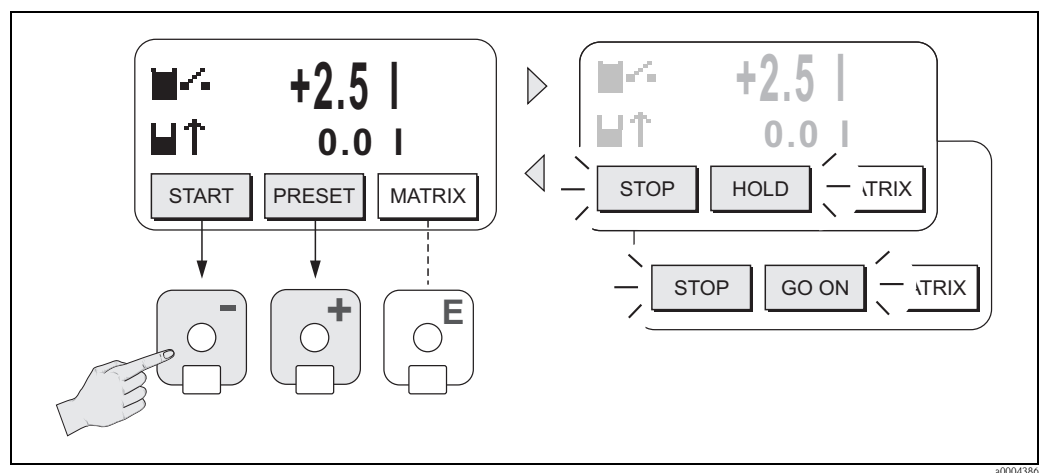

Fig. 46: Controlling batching processes using the local display (softkeys)
The following “softkeys” then appear on the bottom line of the local display → Fig. 46:
3. After exiting the PRESET menu, you can now start the batching process by pressing “START (□)”. New softkeys (STOP/HOLD or GO ON) now appear on the display. You can use these to interrupt, continue or stop the batching process at any time. → Fig. 46